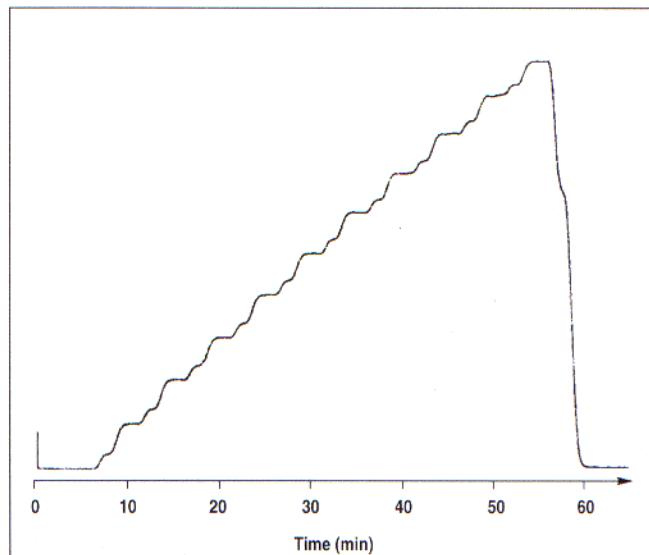

FIGURE 4: Unacceptable step test showing small secondary steps between each major step.
Here's another problem encountered by a reader (1) during a proportioning step test. He ran a test similar to the one above to check proportioning accuracy. Figure 4 shows the test results. Notice the extra small step between each of the major steps in the plot. After the user tried many of the procedures described above, and even replaced the detector, the problem persisted. The retention, resolution, and precision all were acceptable for normal assays, which ruled out a leak or excessive extracolumn volume. To isolate the problem source further, he bypassed the autosampler and connected the pump directly to the detector. The trace then appeared normal, without the secondary steps. This indicated that the problem was associated with the autosampler, not the pumping system.